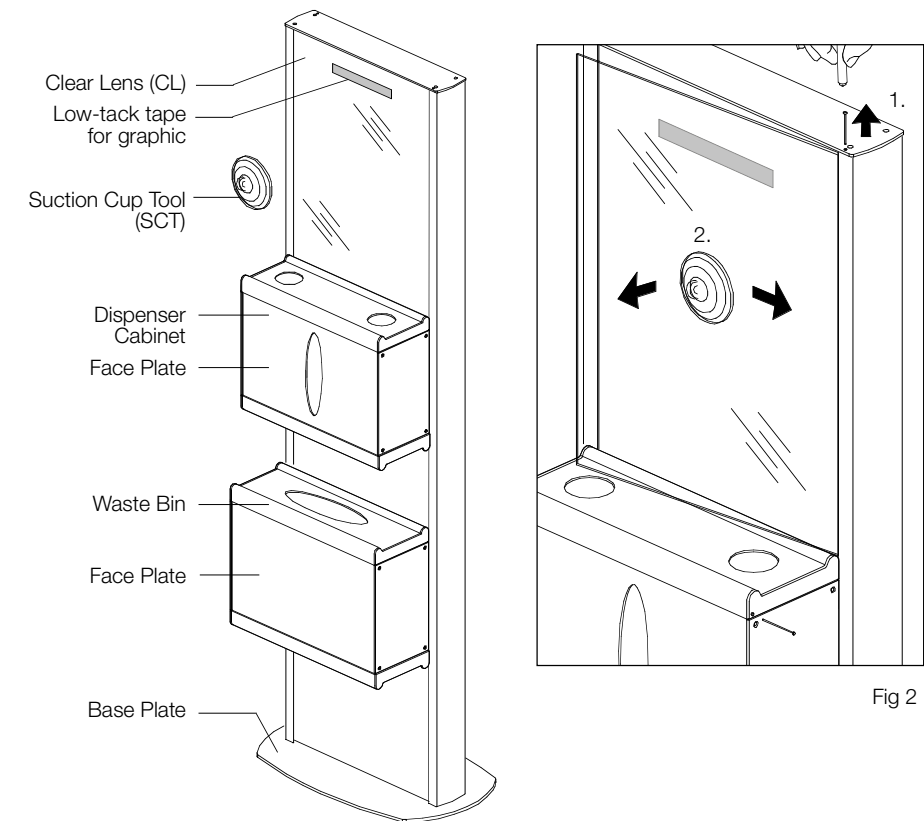

Fig 2
- Use the Magnetic Tool to remove Locking Pin. Access the Locking Pin by removing green tape at top right hand corner of kiosk. Place the magnet over the steel pin as shown in Fig 2 and lift Pin out of the kiosk.